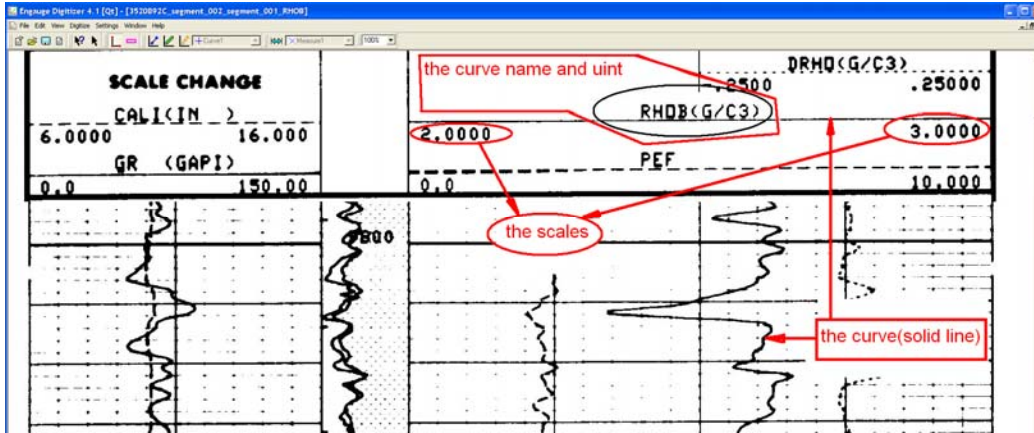

Figure 9, the Legend example
- e. For an imported image file, below figure (Figure 9) shows the Legend for the log (curve name, unit, scales, and line model ---here a solid curve is associated with RHDB)